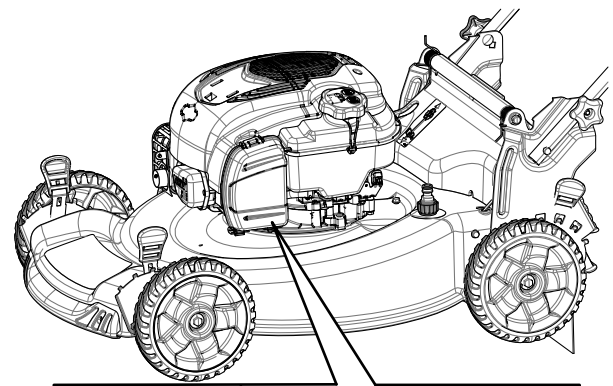

Figure 30
1. Upraise the top of the air-filter cover (Figure 30).
2. Remove the air filter (Figure 30).